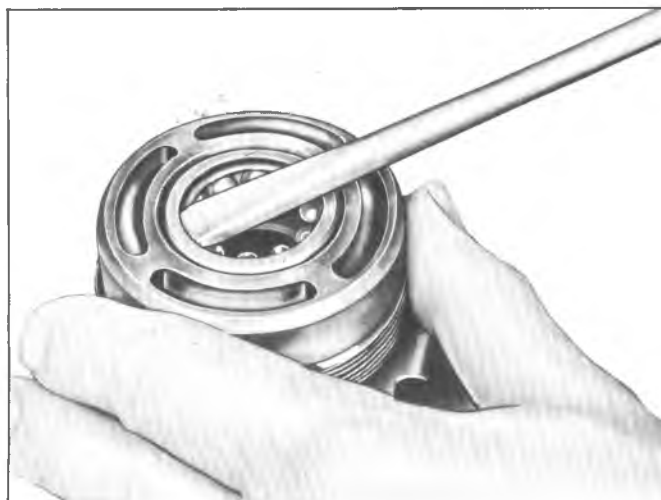

Fig. 7--Removing Lower Bearing Retainer--Except Corvette
8. **All except Corvette**--Using a suitable size screw driver, pry the lower bearing retainer from the adjuster plug housing and remove the bearing (fig. 7).